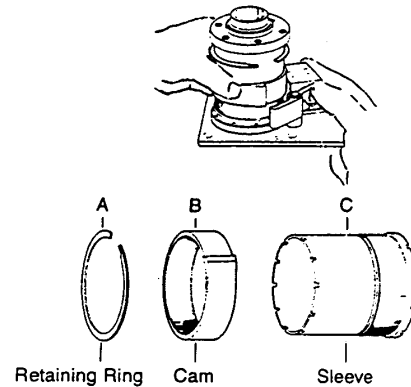

Figure 1 - Readjusting location of standard stop collar
Figure 1 shows an ideal CB mounting. The unit is locked to the output shaft with a key and set screws. The mounting plate is restrained from rotating with a pin, but is not restrained axially, reducing the load on the CB's internal plate bearing.
unit as shown in Figure 1. This is facilitated by drilled and tapped holes provided in the free hub flange.
3. Mechanical binding of plunger.	3. A. Realign coil. This important step must be completed before proceeding to B. B. Set actuator/cam tip clearance at .010" to .030" with coil energized and apply light pressure to the control collar as shown in Figure 1. Note: For AC coils, the actuator should hit the ALS and bottom simultaneously. C. Replace coil assembly.